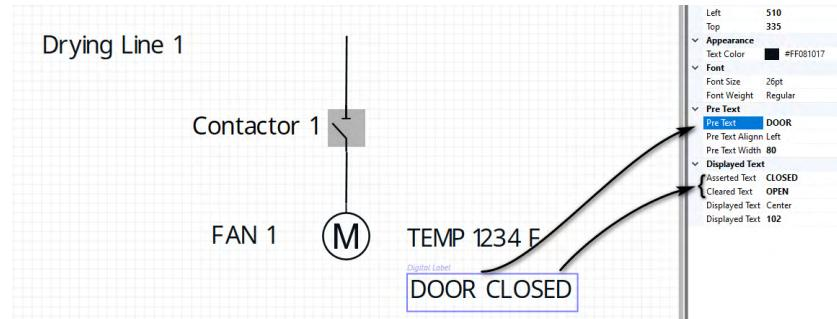

Figure 8.80 Edit Digital Label Properties
Step 6. Name the Digital label by modifying the Pre Text indicated in *Figure 8.80*. Asserted Text under Displayed Text will display when the associated Device Word bit evaluates to a logical TRUE, where as a Deasserted displays in the case of a logical FALSE.